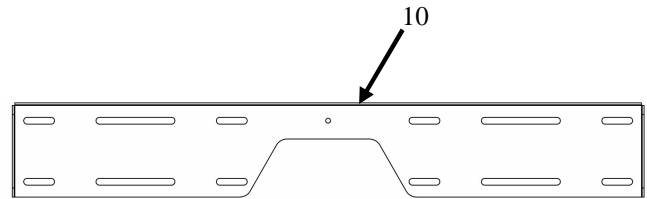

Figure 14. Select Mounting Holes for Concrete Wall Installation
1. Using the wall bracket (10) as a template at the desired mounting location, mark the location of the four mounting holes that you select to mount the wall bracket (see Figure 14) on the wall.